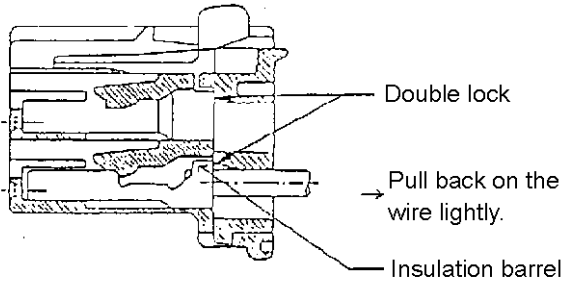

Fig.4 When double lock is completed.
1. A double lock ratchet is used to reinforce contact support. The insulation barrel is supported at the retainer type double lock area. See Fig.4.
3. Verify that the double lock is firmly locked. When completing and verifying steps 1 and 2 above, press the retainer press area. The retainer moves downward and the ratchet clicks to be released. Make sure it is locked by lightly pulling the wire outward. The conditions shown in Figs.4 and 5 will be seen if the retainer behaves correctly. If any contacts are not completely fixed, the retainer does not work properly resulting in the condition shown in Fig.6, in which the retainer is effective only on one side and the ratchet teeth are lifted on one side. If this happens, remount the contact in the correct position using a removing jig.